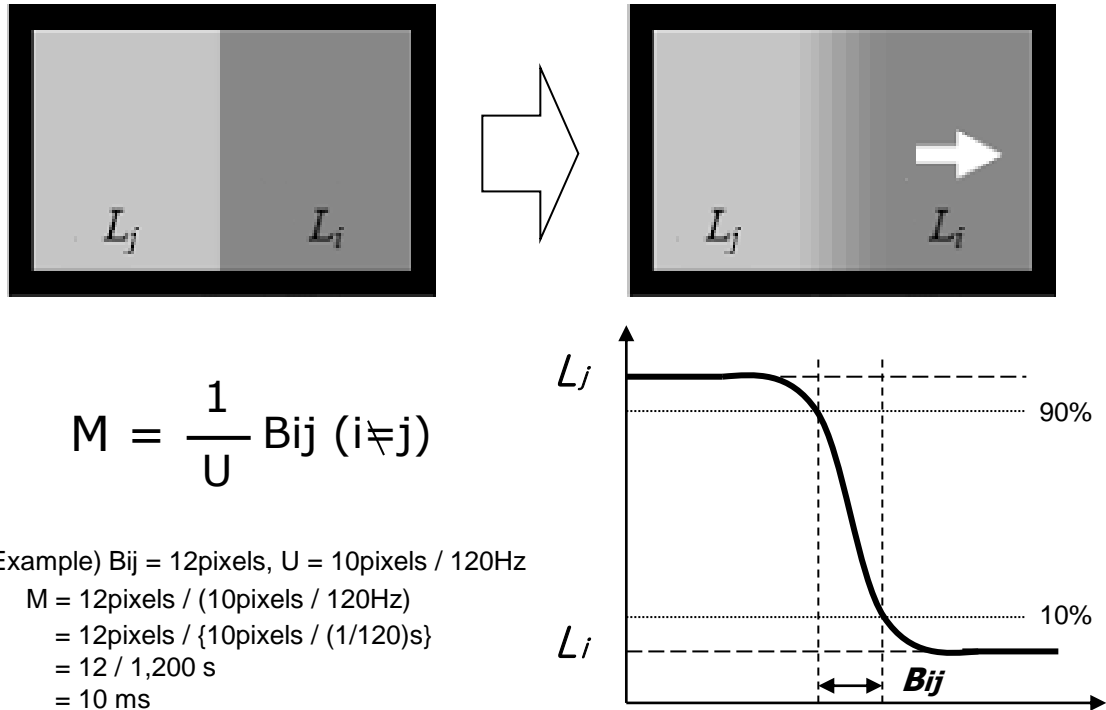

Figure 9. MPRT
For more information see FIG.9 **(By EZ Contrast)**
7. **Viewing angle** is the angle at which the contrast ratio is greater than 10. The angles are determined for the horizontal or x axis and the vertical or y axis with respect to the z axis which is normal to the LCD surface. For more information see Figure 9 .